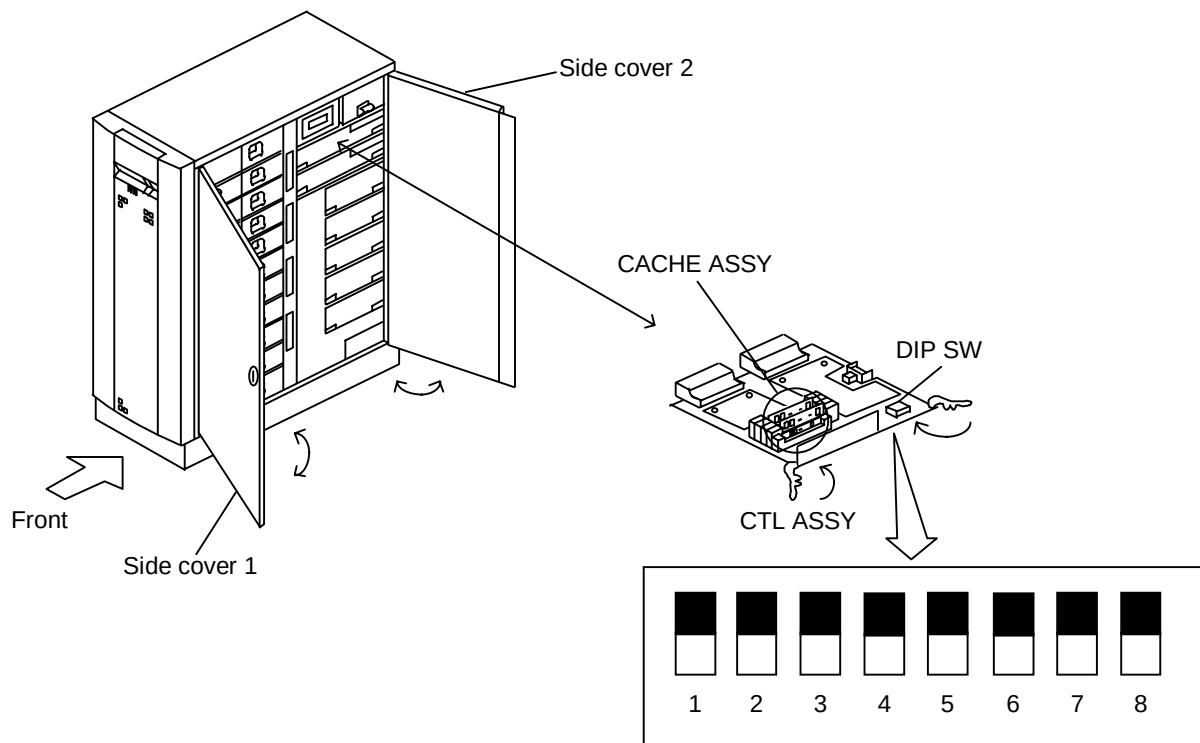

Figure 2.5.1 Installing the CTL ASSY
- (3) Open the side covers.
- (4) Install a CACHE ASSY in the additional CTL ASSY. (Mount a CACHE ASSY of the same capacity in the same corresponding slot of the optional CTL ASSY as those of the already installed CTL ASSY respectively as shown on CK-OPTION0160.)
- (5) Insert the CTL ASSY in a predetermined position with the right and left levers opened. Push the right and left levers in the arrow-marked direction (→) at the same time. (See Figure 2.5.1.)
- (6) Install the additional I/F ADAPTER ASSY. (See Figure 2.5.1.) Set JP1 and JP2 on the I/F ADAPTER to the same condition as the pre-installed I/F ADAPTER ASSY.